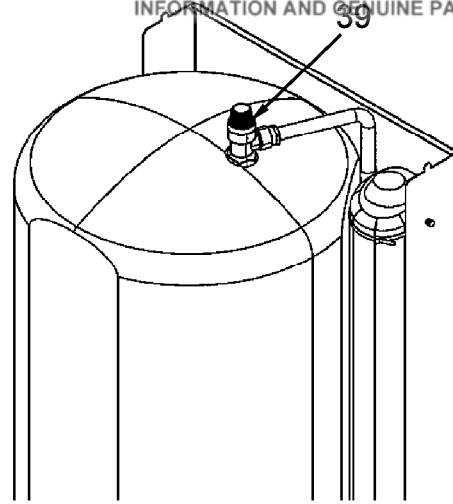

Fig. 17
- Manually open the temperature and pressure relief valve (39 Fig. 17) for a few seconds.